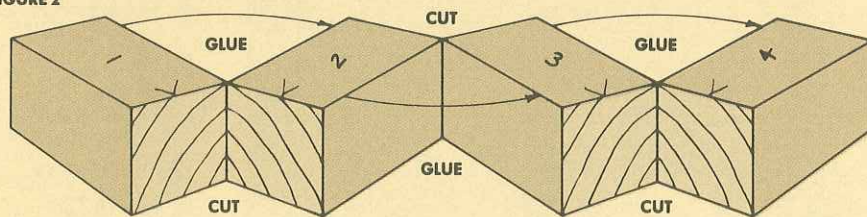

FIGURE 3
**THE LEGS.** The front legs are 18" long on the chair shown. However, if you want to alter the seat height (which is 16 $\frac{1}{16}$ ") you must adjust the length of the front leg. If you change the front legs, the back legs must be changed by the same amount. Also, when cutting the back legs to length, miter the tops at 6°, as shown in Fig. 3.
**ANGLED MORTISES, BACK LEG.** Laying out the angled mortises for the back rest (Fig. 3) is easier than it looks. Since the top of the back leg has been mitered at 6°, it's simply a matter of placing a try square on the top of this leg and marking a line down the side of the leg. Then the through mortises are laid out and cut as shown.
**STEP 4.** These eight sections are then glued up, paying close attention to the end grain pattern. Looking at the end of this block, the ring patterns should form a series of four half-circles, Fig. 3. If, during gluing, the blocks have slipped, you must carefully plane the surfaces flat.